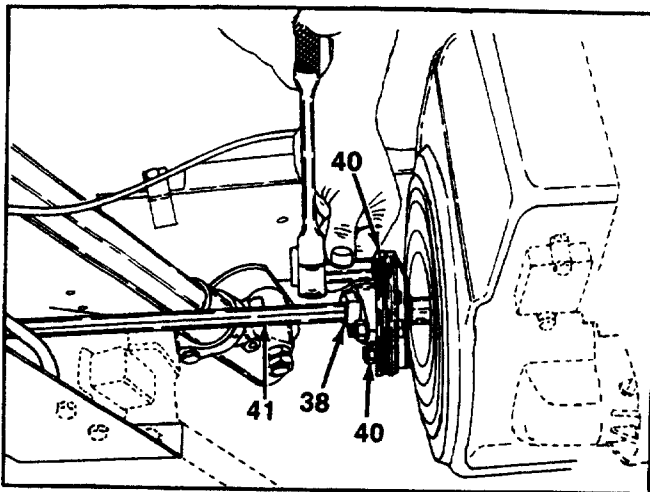

FIGURE 20.
22. Remove two hex nuts at coupling and flexible disc. See figure 20.